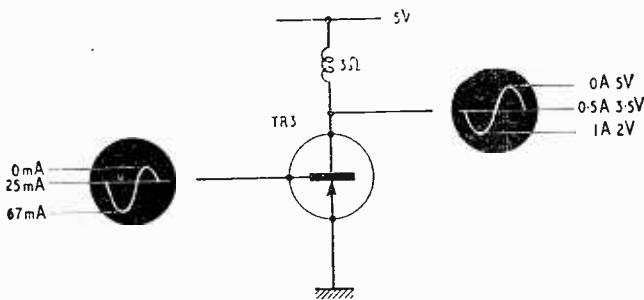

Fig. 3. Base and collector operating conditions in the output stage.
A supply of 5V and a 3-Ω speaker gives a "sit" point of 3.5V and a dissipation of 1.75W. A Pye transistor marked V15/30P signifies a maximum collector potential of 15V, with a minimum current gain of 30 at 200mA. This unfortunately drops to approximately 20 at  $I_c = 0.5A$  and to 15 at  $I_c = 1.0A$ . Fig. 3 shows that the transistor needs base currents between 67mA and 0mA for a collector swing of 0-1A. The full drive of 67mA to TR3 will be obtained when TR2 is cut off, and so the collector load of TR2 will have to supply 67mA from 5V, making it approximately 67Ω, allowing 0.5V for the base-to-emitter voltage. In the standing condition TR2 will have a collector current of 67 - 25 = 42mA rising to 67mA. If TR2 is an OC72,  $\beta$  will be 60 at 40mA and drop to 50 at 70mA. Thus  $I_b$  of TR2 will be 1.3mA peak and 680μA standing, as will be  $I_c$  of TR1.
**D.C. Conditions.**—From Figs. 3 and 5 the  $V_{ce}$  of TR3 is 3.5V, the base voltage is almost zero, and the resistance to the decoupled point is 5k $\Omega$ . So  $I_f = 3.5/4.7 = 0.75\text{mA}$  and the value of the feed resistor from the positive line is (positive volts)/ $I_f$ ; with a 5- $\Omega$  smoothing resistor the positive line should be 3V. Then the feed resistor is 4k $\Omega$ . Preferably when the set is tested the feed resistor should be adjusted to give the correct steady current of 0.5A in the final transistor, this is necessary because the positive and negative lines may not be quite the calculated values. It is hoped that this description is sufficiently detailed to enable the reader easily to modify the design, such as for the use of other transistors, a 15- $\Omega$  speaker, or different voltage supplies.